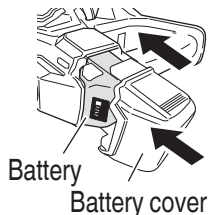

Fig. 20
- (2) Attach battery and battery cover. (**Fig. 20**)
- (10) Attach battery and battery cover (Fig. 20)
- (4) Attach the battery and battery cover (Fig. 20 on page 56)